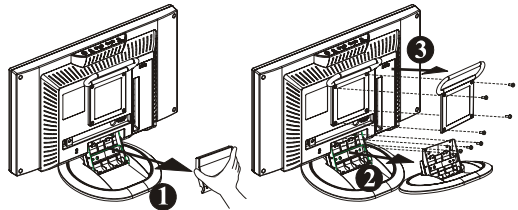

Figure 1-7
1. Remove the rear cover from neck ① (See Figure 1-7)
2. Unscrew screws of the hinge bracket ②
3. Remove the stand from main body ③